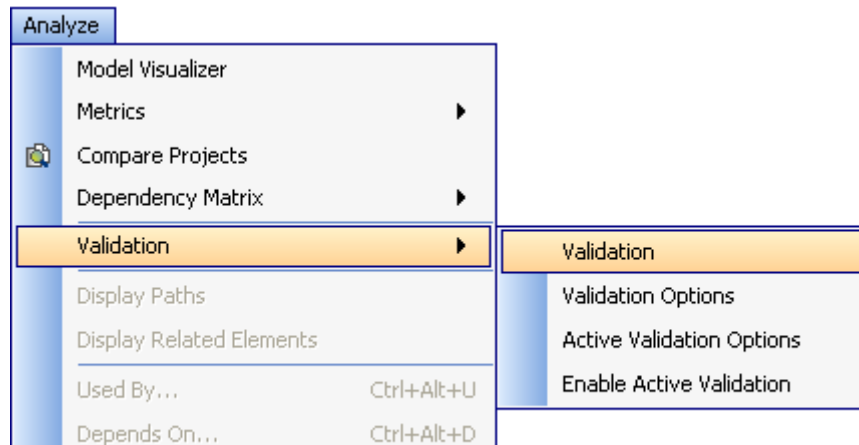

Figure 201 -- Validation Menu
1. Click **Analyze > Validation > Validation** on the main menu (Figure 201).